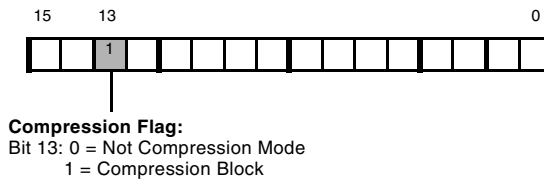

Figure 3-10. Flag Word of Compressed Block Header
The last 16 bits of the compressed header is the flag word. The only valid compression flag assignments are shown in Figure 3-10.
3. (A) The initialization code scans the header for any compressed streams (see the compression flag structure in Figure 3-10). The code decompresses the streams to the decompression window (in parts) and runs the initialization kernel on the decompressed data.